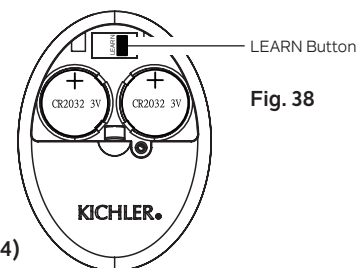

Fig. 38
This fan sounds confirmation beeps during the fan control setup process, and any time that a button is pressed on the transmitter. The confirmation beeps can be muted by pressing the "LEARN" button on the transmitter. (Fig. 38)
Step 2. Press the "LEARN" button once to mute the confirmation beeps. (Fig. 38)
After installing a replacement receiver (See the "**ELECTRICAL CONNECTIONS**" instructions on **Pages 12 and 13**) a replacement receiver can be paired to the transmitter by pressing the and holding the "**LEARN**" button on the transmitter. **(Fig. 38)**
Step 2. Restore power to the ceiling fan branch circuit at the circuit breaker or fuse box. Within 30 seconds of restoring power, press the "**LEARN**" button **(Fig. 38)** for about 2-3 seconds. The light kit (if installed) will blink twice and the fan will beep twice to signal that the pairing process is complete.
A replacement transmitter can be paired to the receiver by pressing the and holding the "**LEARN**" button on the transmitter. **(Fig. 38)**